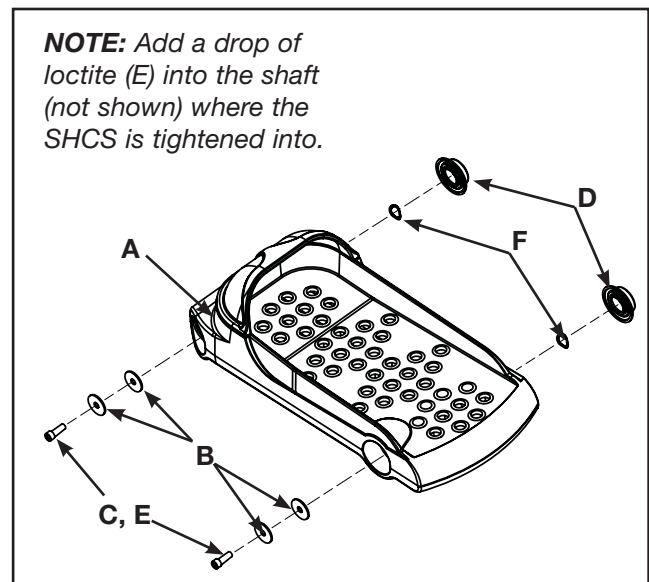

Figure 2 (right foot assembly)
- A. Turn the main power switch above the power inlet to the off (O) position.
- A. Install the new spacers (D) and wave washers (F) onto the foot plate shaft as shown in Figure 2.
- B. Slide the new foot plate (A) onto the foot plate shaft.
- C. Place a drop of loctite (E) on one of the SHCS (C). Place another drop of loctite in the shaft (where the SHCS will be tightened into).
- D. Install two flat washers (B) and SHCS (C) and securely tighten.
- E. Repeat steps 4C and 4D for the other washers (B) and SHCS (C).